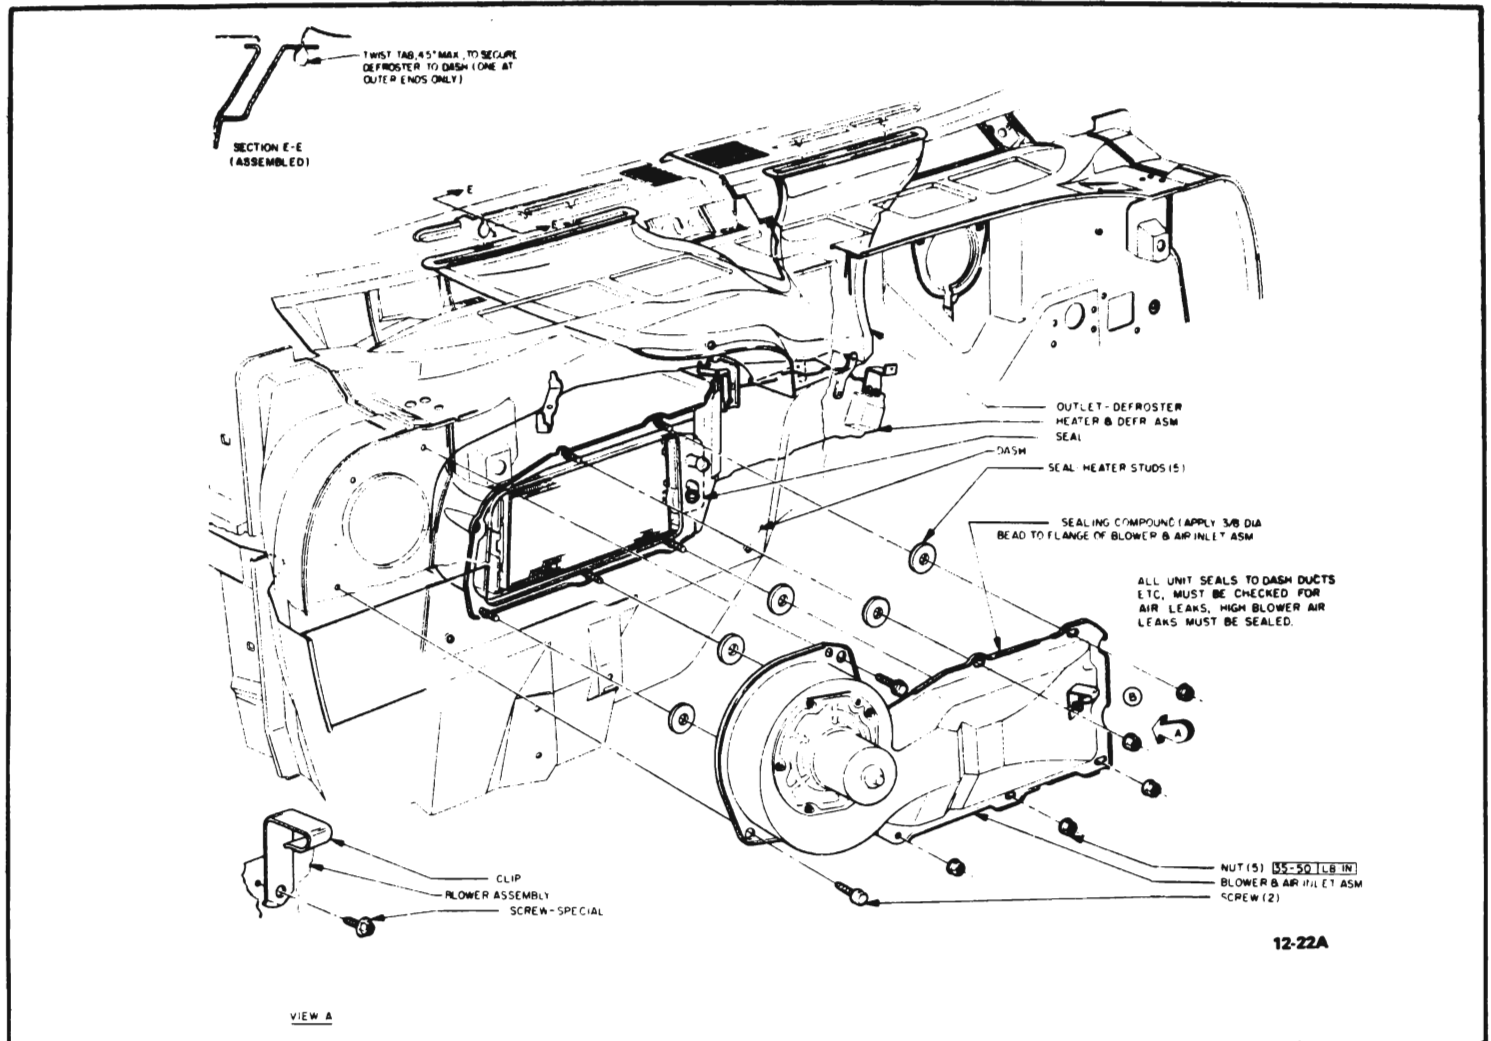

Figure 12-2 Heater Installation
The heater system is an air mix type system in which outside air is heated and then mixed in varying amounts with cooler outside air to attain the desired air temperature. The system consists basically of three parts: (1) the blower and air inlet assembly, (2) the heater assembly and (3) the heater control assembly (see Figure 12-2). The operation of the system is as follows:
3. (Blower Motor and Air Inlet Assembly) Disconnect blower motor wire. Remove five nuts and two screws securing blower and air inlet assembly to dash. See Figure 12-2.